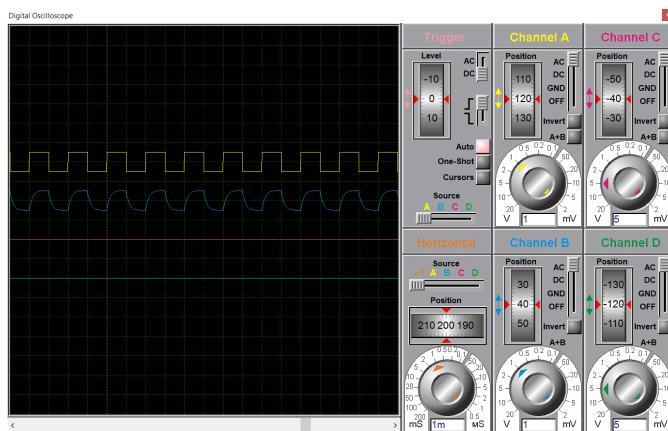

Fig. 3. Pulse frequency response
4) - *Filter Response to Pulse*: As it is evident in figure 3, the response is no longer square shaped since the filter changes the phase of different signals non-uniformly.